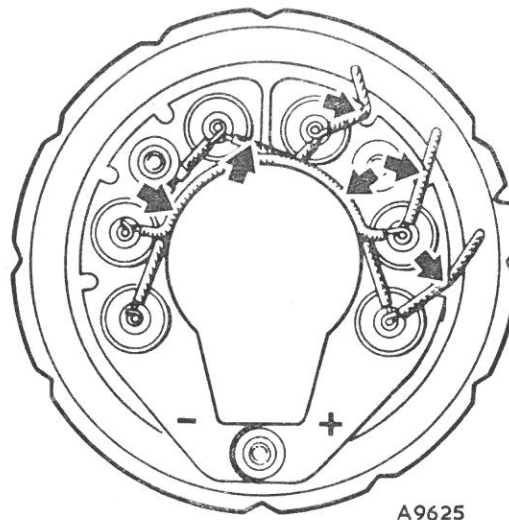

Fig. N.13
- Arrange the connections neatly around the heat sinks to ensure adequate clearance for the rotor, and secure with a suitable heat-resistant adhesive (Fig. N.13). The three stator connections must pass through the appropriate notches at the edge of the heat sink.